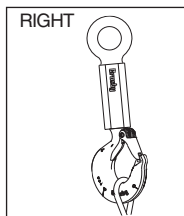
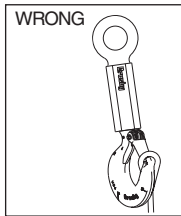

Figure 3
Figure 4
- Always make sure the hook supports the load. (See Figure 3 on page 156). The latch must never support the load (See Figure 4 on page 156).
- When placing two (2) sling legs in hooks, make sure the angle between the legs is less the 90° and if the hook or load is tilted, nothing bears against the bottom of this latch. (See Figures 3 & 4)